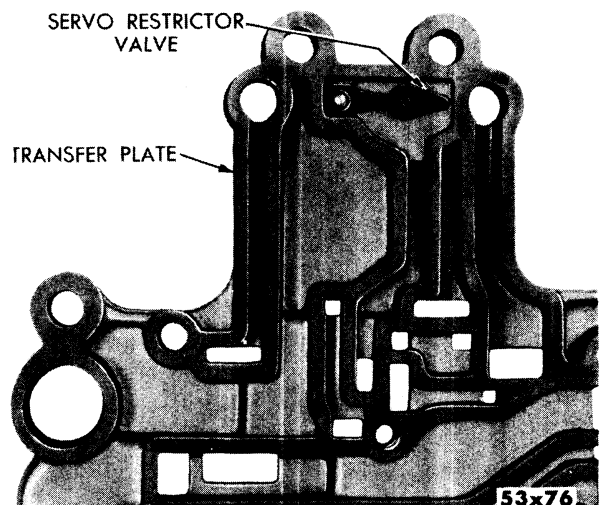

Fig. 126—Servo Restrictor Valve
- (14) Inspect kickdown valve rod for wear and scoring; also inspect for wear at entering point in valve body.
- (15) Inspect kickdown valve ball seat in valve body.
- (16) Inspect servo restrictor valve in the transfer plate to make sure valve is seating properly. (Fig. 126.) If valve is distorted, carefully remove the drive screw. Install new valve and new drive screw making sure the drive screw is tight.